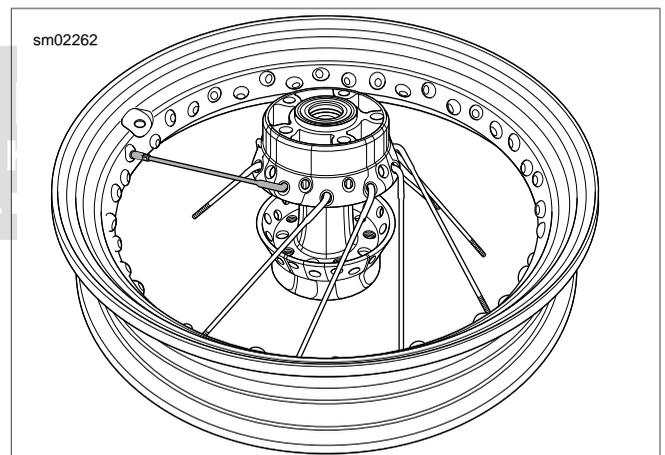

Figure 2-17. Brake Side Up: Start First Spoke of Bottom Row
2. See Figure 2-17. Center rim over hub assembly with valve stem hole facing upward.